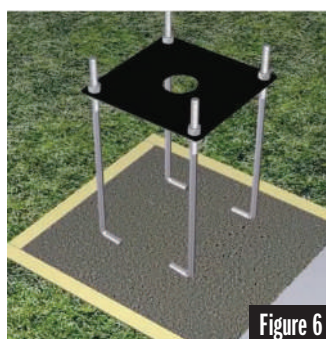

Figure 6
- Set the bolt plate in the center of the 2' x 2' area parallel to the playing surface. See Figure 6.